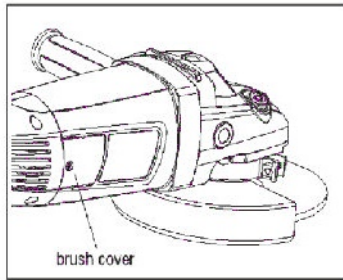

Fig8
2. Both carbon brushes should be replaced at the same time Use only PROWORX brushes provided. (Fig 8)